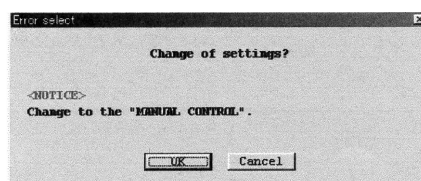

Fig.47
④ After filling in all the fields required, click on "OK" button. A message box as shown in Fig. 47 then appears.